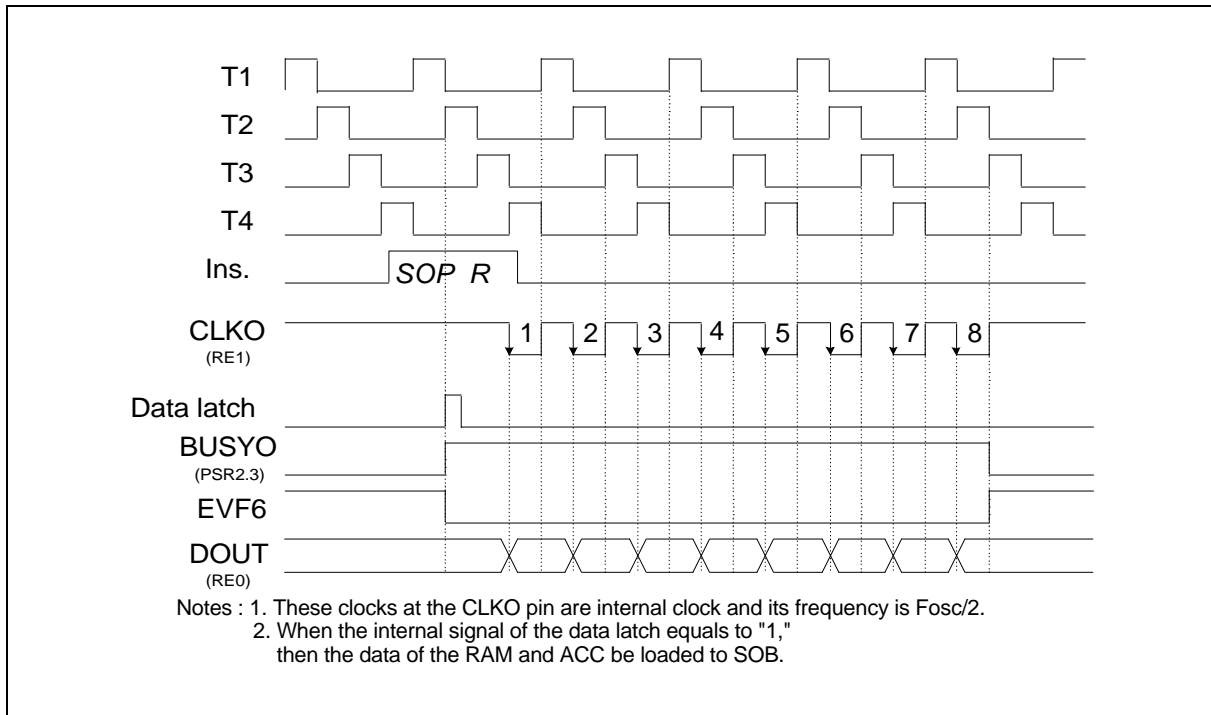

Figure 12. Timing of the Serial Output Function (SOP R)
- (2) When the SOP R instruction is executed, the data will be loaded to the serial output buffer (SOB) and bit 3 of port status register 2 will be set to "1" ( $BUSY_O = 1$ ). Then the CLKO pin will send out 8 clocks and the data in SOB will be sent out at the falling edge of the CLKO pin. After the 8 clocks have been sent,  $BUSY_O$  will be reset to "0" and EVF.6 will be set to "1." At this time, if IEF.6 has been set ( $IEF.6 = 1$ ), an interrupt is executed; if HEF.6 has been set ( $HEF.6 = 1$ ), the hold state is terminated. Users can check the status of PSR2.3 ( $BUSY_O$ ) to know whether the serial output process is completed or not. If a serial output process is not completed, and the SOP R instruction is executed again, the data will be lost. The timing is shown in Figure 12.